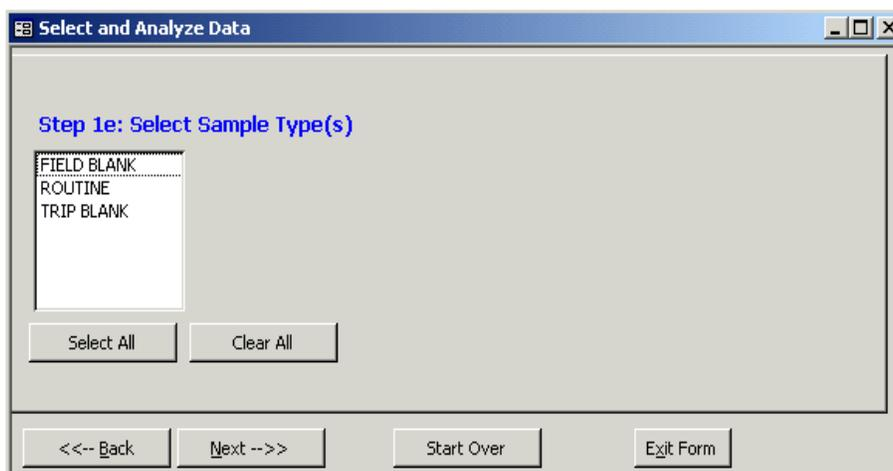

Figure 4-7. Select Sample Type(s) form.
- “Next -->,” which indicates that your choices are complete and moves you to the Select Sample Type(s) form (Figure 4-7).
The next form to be displayed is the Select Sample Type(s) form (Figure 4-7).
- “<<-- Back,” which returns you to the Select Sample Type(s) form (Figure 4-7).